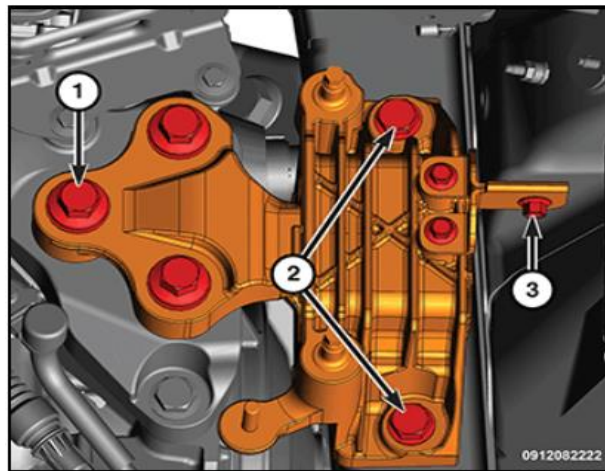

Fig 1. Left Transmission Mount
**NOTE:** RU FWD left transmission mount shown (Fig 1).
2. Loosen the left trans mount to transmission bracket bolts (Fig 1. Labelled 1).
3. Loosen the left trans mount to frame rail bolt (Fig 1. Labelled 2).
4. Loosen the bolt for the left trans mount to strut tower (Fig 1. Labelled 3) attachment, if equipped.